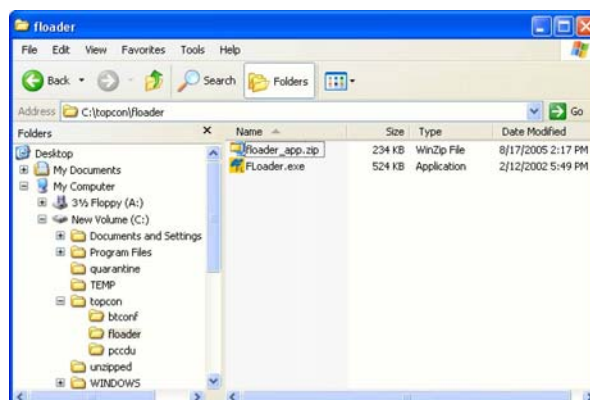

Figure 2-5. Extract Program and Create Shortcut
3. Extract the FLoader.exe file to the **FLoader** folder (Figure 2-5).
4. Optionally, create a shortcut on the computer's desk-top for quick access to **FLoader** (Figure 2-5).